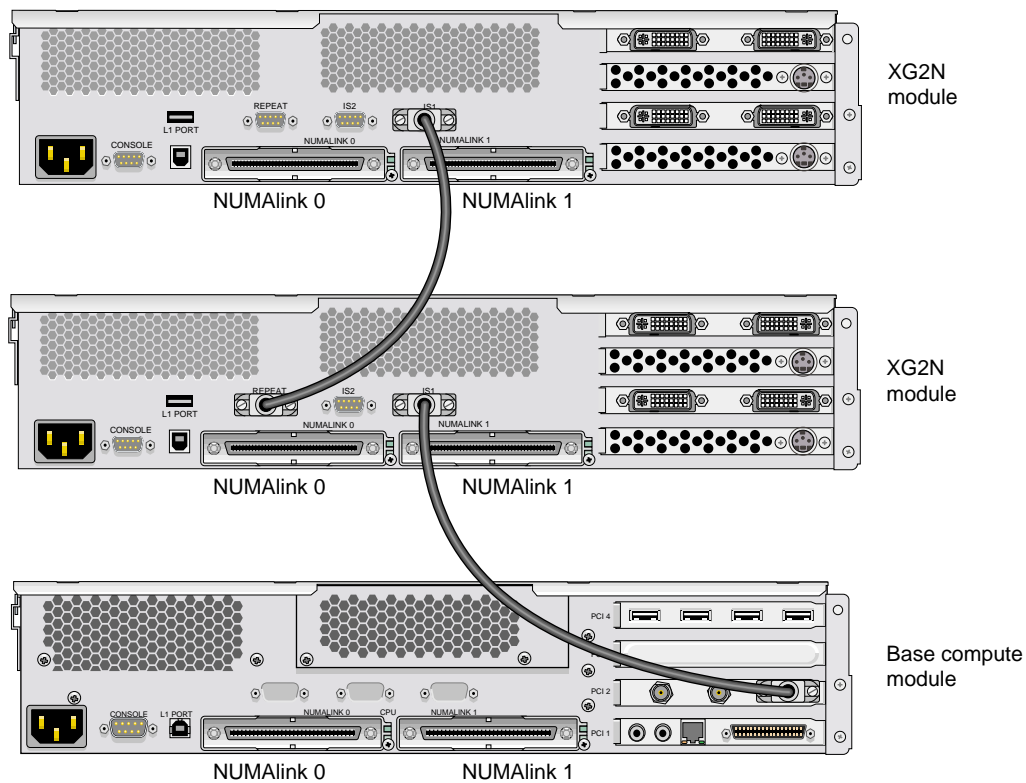

Figure 1-9 Cabling Example of SGI ImageSync Card to Graphics
2. Daisy-chain the SGI ImageSync cable from this first XG2N to any additional graphics modules in your system by connecting an ImageSync DB9-to-DB9 cable from the **Repeat** connector (located above the **NUMAlink 0** connector) and routing it to the ImageSync connector (labeled **IS1**) on the back of the next XG2N graphics module, as shown in Figure 1-9.
Note: Figure 1-9 is intended only to show an example of how the ImageSync cables connect. Your system may be configured differently.